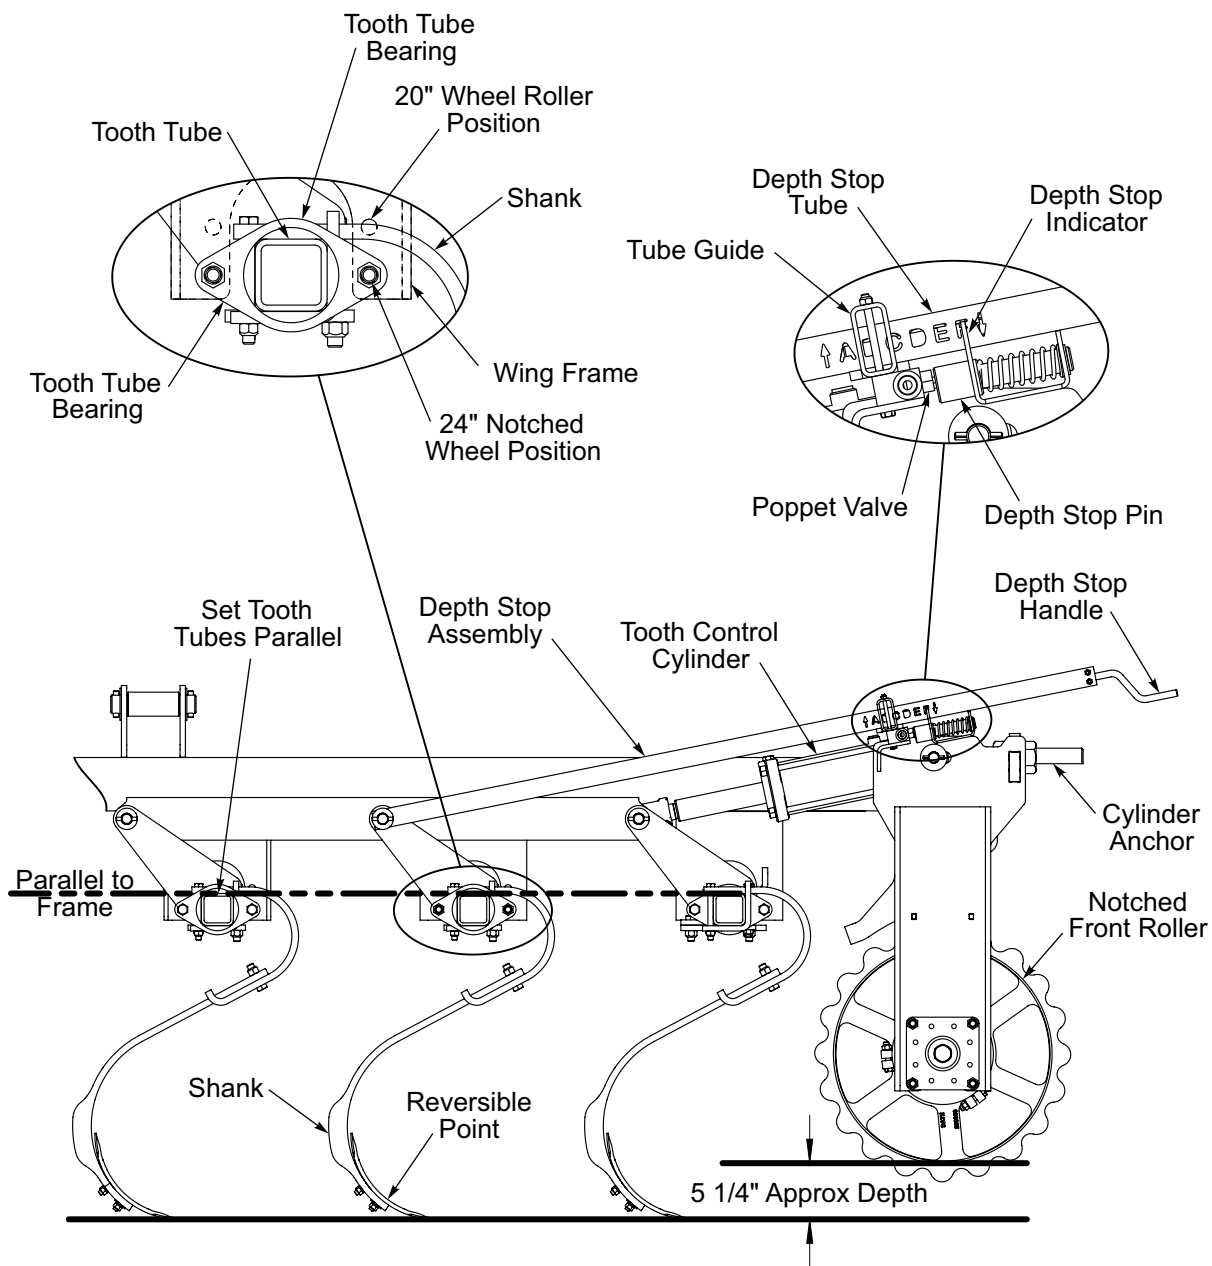

Figure 3-13: Shank Depth Control
2. Adjust the Shank Depth by turning the Depth Stop Handle until the desired letter, that matches the required shank depth, is centered on the depth Stop Indicator. **See Figure 3-13.**